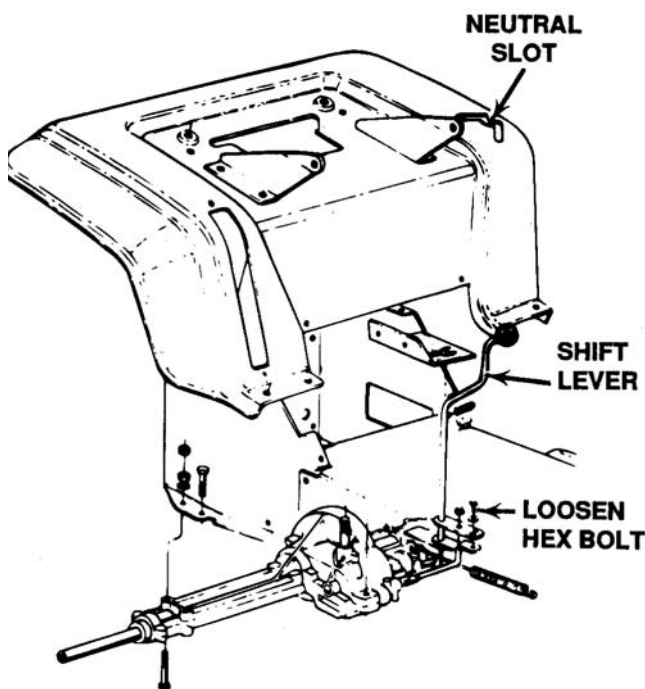

Figure 4-13. Adjusting Shift Lever to Neutral
2. Loosen the bolt which secures the shift lever assembly to the shift lever adjusting link. See Figure 4-13.